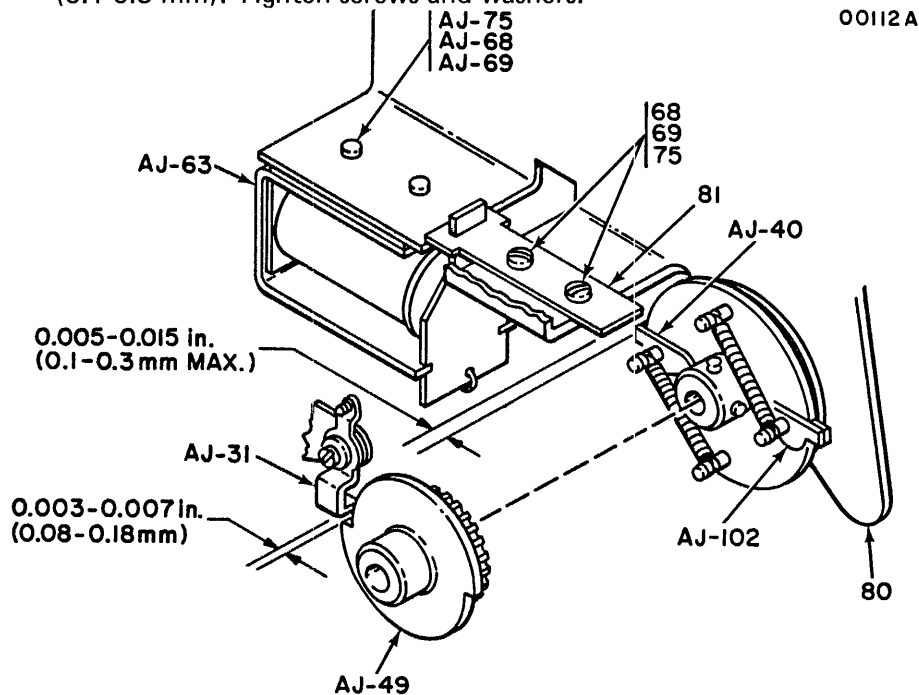

Figure 5-10 TWO ADJUSTMENTS, PAPER FEED MECHANISM (AJ)
#### A. Clutch, Inner Cam (AJ-40) Clutch Slide Pawl (81) (Fig. 5-10)
To adjust proper distance of clutch slide pawl (81) with respect to holding the raised tab on paper feed clutch, inner cam (AJ-40) (prior to line feed release), perform the following steps: (Refer to Fig. 5-10 below and mechanical drawing Fig. AJ, Section 8).
2. Slide magnet on paper feed chassis slots so that the gap between clutch slide pawl (81) and raised tab on inner cam (AJ-40) is from 0.005-0.015 in. max. (0.1-0.3 mm). Tighten screws and washers.
#### B. Paper Feed Cam and Gear (AJ-49) / Back Stopper (AJ-31) (Fig. 5-10)